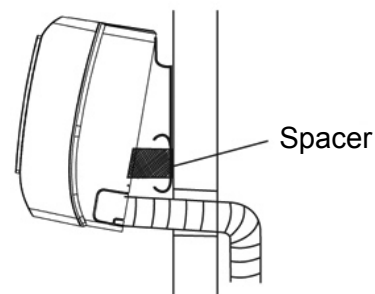

Fig. 16
- E. Keep the unit away from the wall to prevent the line set from being kinked or crushed, use a piece of styrofoam as a spacer between the back of the unit and the wall. (Fig. 16)